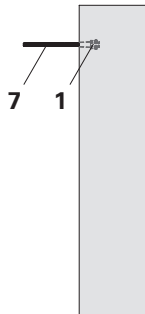

Fig. A3.02
- Screw the Tie Rod B 15, L = 0.30 m (7) into the Stopend Sleeve DW 15 (1). (Fig. A3.02)